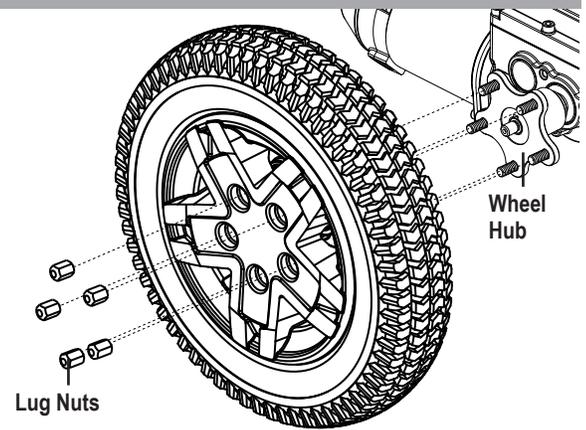

Figure 20. Q4 Drive Wheel
4. Remove the five (5) lug nuts from the wheel hub. **See figure 20.**